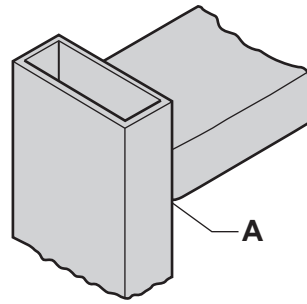

Fig. 12.7
- (f) Fig. 12.7 shows one end of a frame.
Sketch and name a suitable construction that could be used at **A** shown in Fig. 12.7.